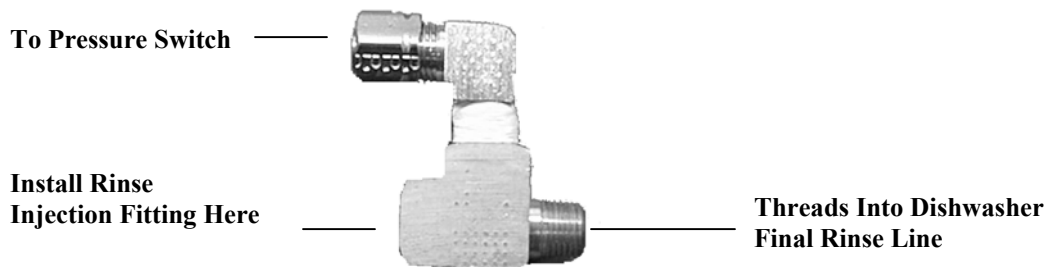

Figure 3
- 9.0 Install tee/elbow fitting (provided) in the dishwasher final rinse line injection point instead of the Rinse Injection Fitting. Orient elbow side of the fitting most upstream to help prevent pushing rinse aid into the Pressure Switch. Install Rinse Injector Fitting to tee fitting. (Fig. 3)